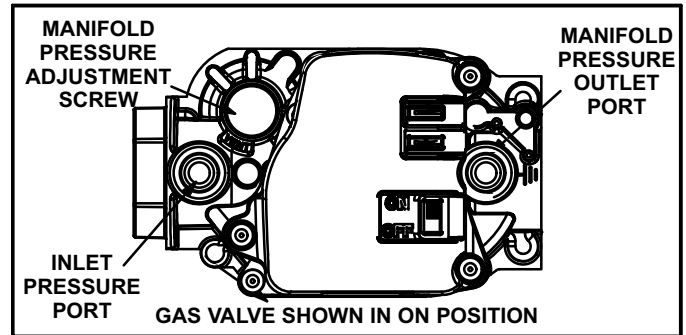

FIGURE 35
Gas Valve Operation (Figure 35)
- 6 - Move switch on gas valve to **OFF**. Do not force. See figure 35.
- 8 - Move switch on gas valve to **ON**. Do not force. See figure 35.